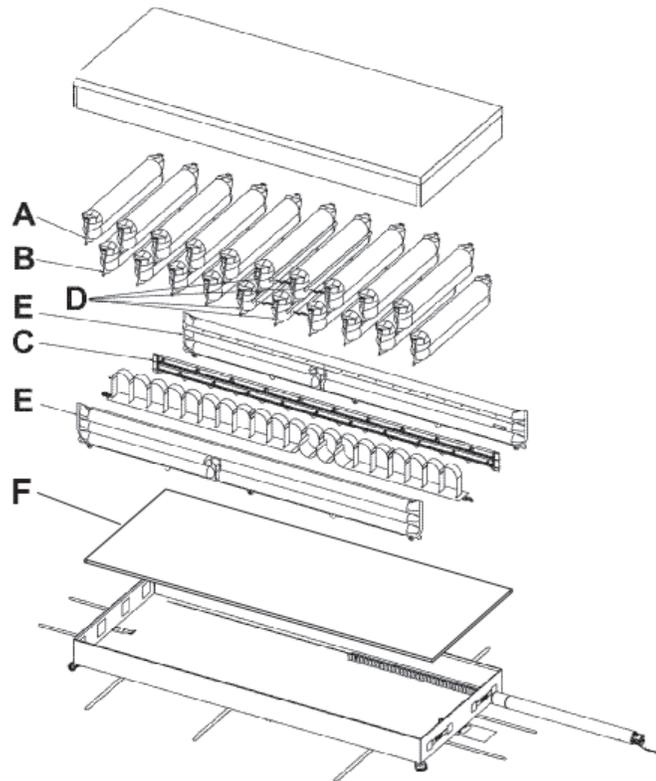

Figure 1 – Air cells
The support surface is constructed with rows of air cells connected to two different air lines (C). Odd row air cells (A) are connected to the A air line and even row cells (B) are connected to the B air line (Figure 1).
When AST is on, sensors in the sacral region (D) of the support surface help control patient immersion (Figure 1).
The left and right side bolsters (E) provide exterior support to the patient. This helps to secure the patient within the support surface (Figure 1).